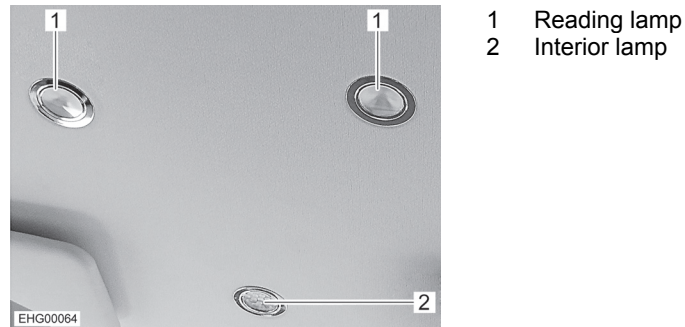

Fig. 90 Lamps (driver's cabin)
The interior lamp (Fig. 90,2) will switch on automatically when unlocking or opening a door of the vehicle.
The interior lamp (Fig. 90,2) will go out automatically a few seconds after closing all the doors, or when locking the vehicle, or after switching on the ignition.
- Touch the edge of the reading lamp (Fig. 90,1). The reading lamp is switched on.